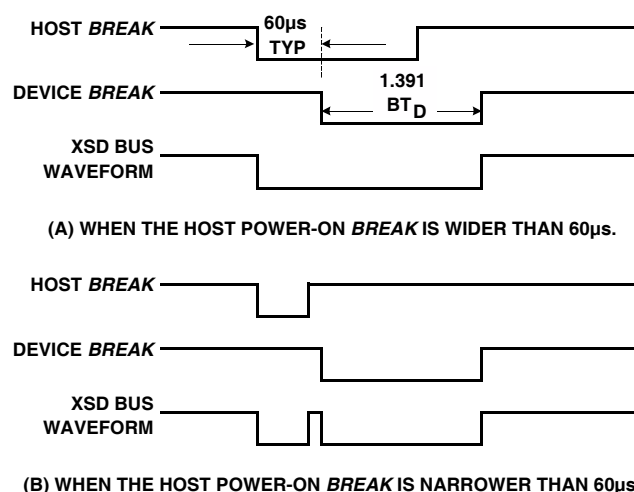

FIGURE 4. POWER-ON BREAK SIGNAL TO WAKE-UP THE ISL6296 FROM SLEEP MODE
Note that the ISL6296 will initiate the power-on sequence without waiting for the power-on 'break' signal to return to the high state. If the host sends an initial 'break' pulse wider than 60μs, the device-ready 'break' returned by the ISL6296 will likely be merged with the pulse sent by the host and, therefore, may not be detectable. Figure 4 illustrates the waveforms during the Power-on Reset. Figure 4 (A) represents the case when the power-on 'break' rising edge occurs after the device starts sending the 'break'. Figure 4 (B) represents the case when the power-on 'break' finishes before the device sends its 'break'. The device break signal is always 1.391 times of the device bit-time (BT, see XSD Bus Interface section for more details). Either case in Figure 4 will wake up the device successfully if the device is in the sleep mode.